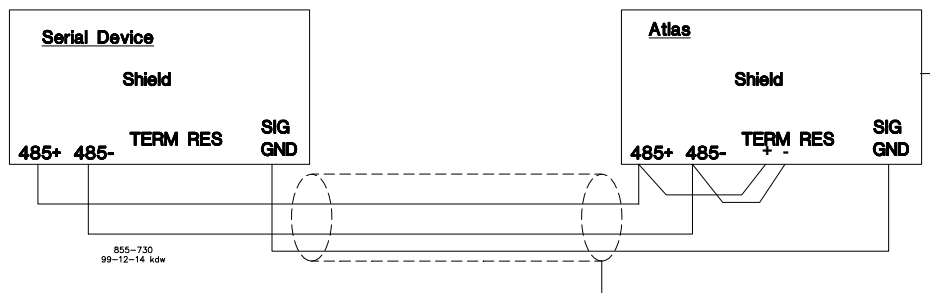

Figure 5-19. Wiring Example–RS-485 Interface to the SmartCore Board
- Refer to Figure 5-19 for RS-485 wiring. The data lines (485+ and 485-) and signal ground (SIG GND) must be properly connected as shown. In addition, the shield (SHLD) should be connected in at least one location. The last unit in the chain, and only the last unit, should be terminated with a resistor. The AtlasPC has resistors built in (TERM RES) for this purpose. This applies to both ends of the network.